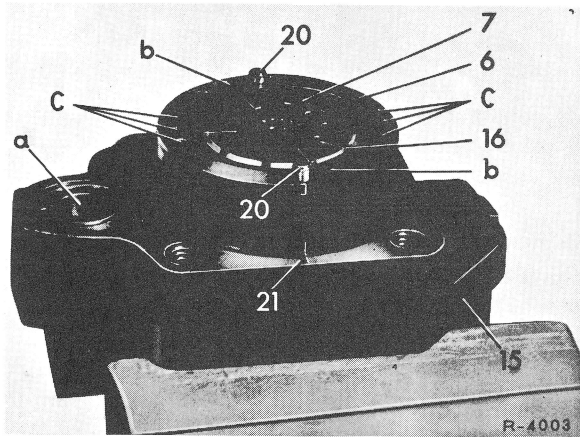

Fig. 5
5 Remove rotor (7) together with pump vane (16) from splining of drive shaft (Fig. 5).